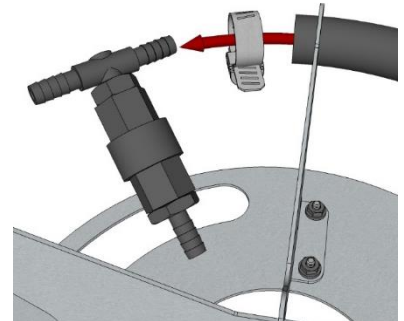

Figure 3
8. Slide a Hose Clamp onto each end of the Bubble Tube as shown in Figure 3. Install with the bolt on the underside of the Bubble Tube and facing outward.